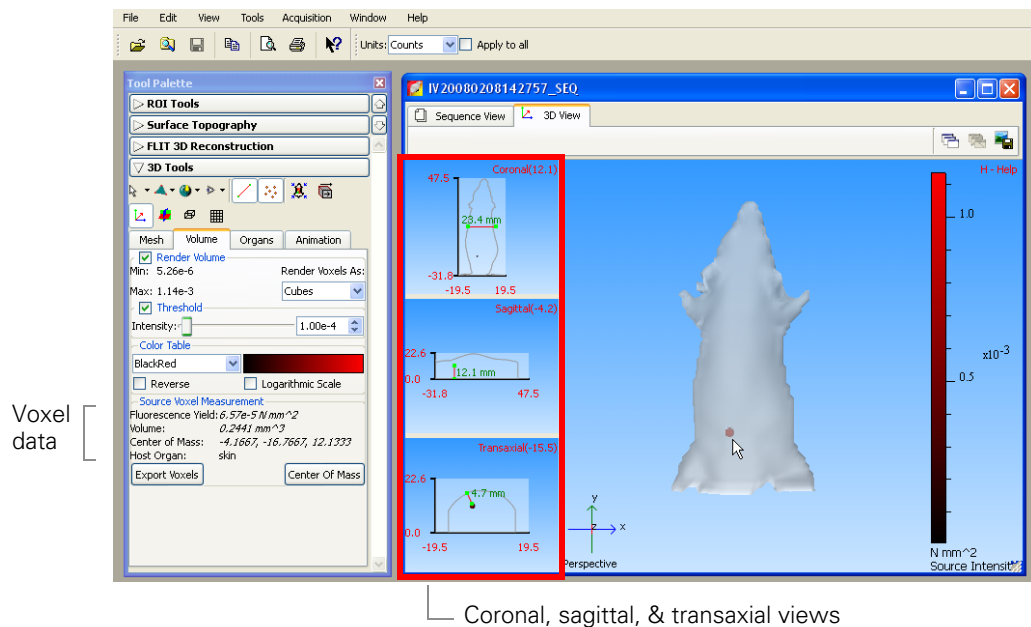

Figure 11.9 Example 3D reconstruction, FLIT results
- The Sagittal and Transaxial views show the distance between the voxel(s) and the dorsal or ventral surface (Figure 11.9).